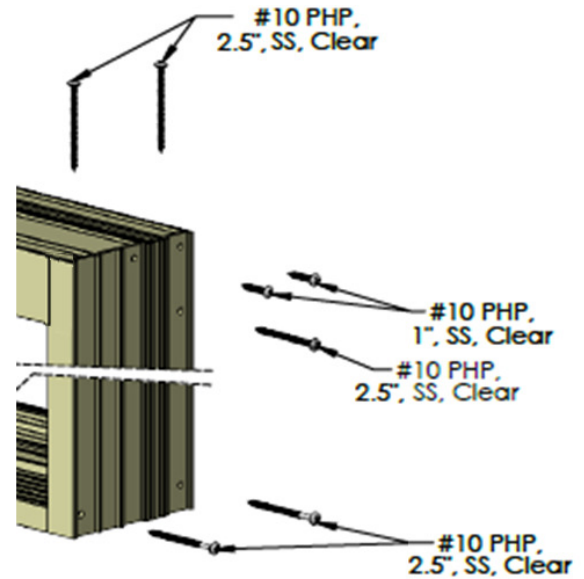

Figure 2:
3. Remove the pre-threaded frame assembly screws from the Head, Jambs and Sill (Figure 2).